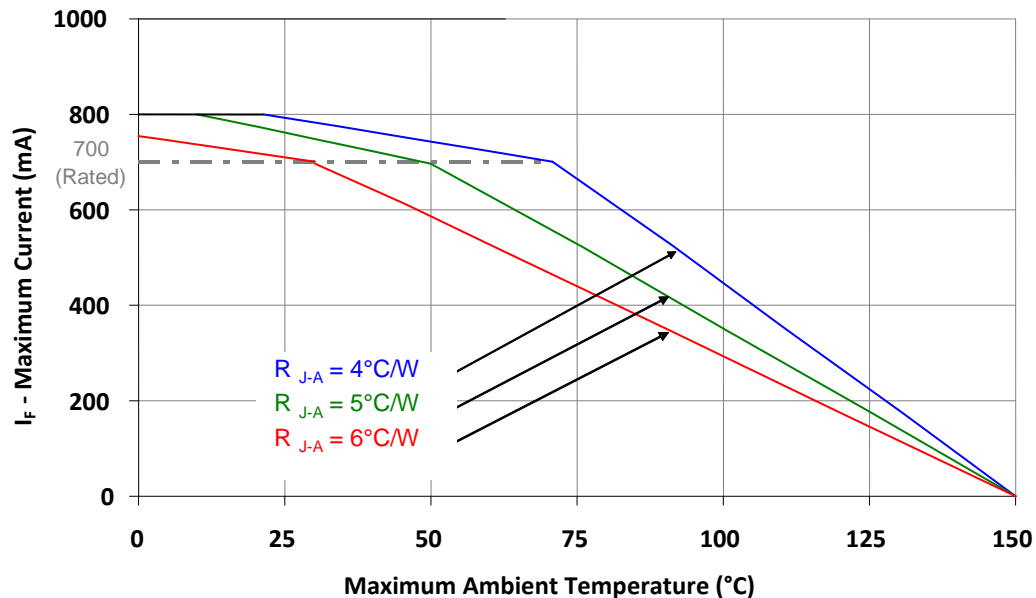

Figure 10: Maximum forward current vs. ambient temperature based on  $T_{j(\text{MAX})} = 150^\circ\text{C}$ .
- Maximum DC forward current (per die) is determined by the overall thermal resistance and ambient temperature. Follow the curves in Figure 10 for current de-rating.
Notes for Figure 10: